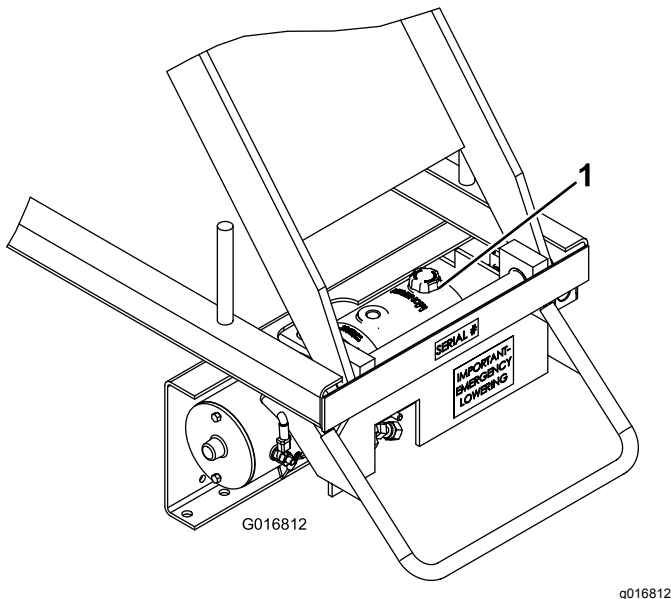

Figure 23
4. Clean the area around reservoir breather cap (Figure 23).